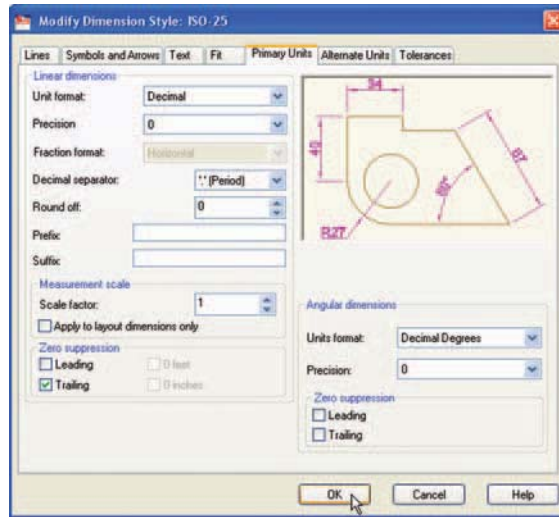

Fig. 4.12 Setting **Primary Units** in the **Dimension Style Manager**
5. The **Modify Dimension Style** dialog reappears (Fig. 4.12). *Click* the **Symbols and Arrows** tab. Set **Arrow** size to **6**.
7. Then *click* the **Primary Units** tab and set the units **Precision** to **0**, that is no units after decimal point and **Decimal separator** to **Period**. *Click* the sub-dialogs **OK** button (Fig. 4.12).